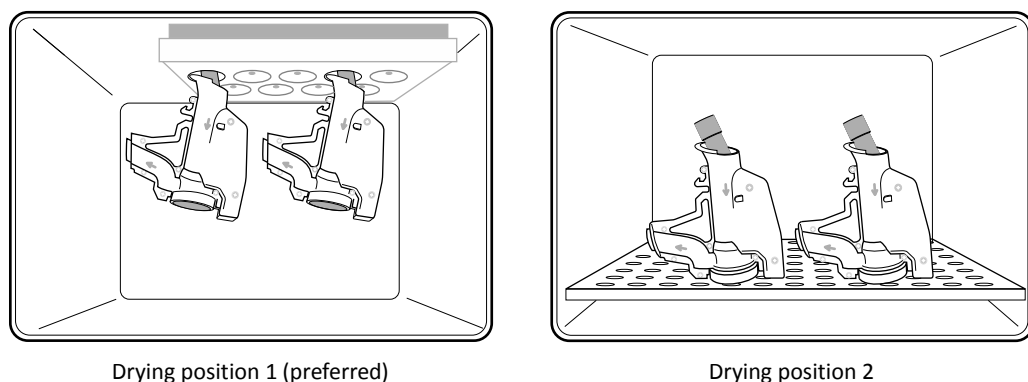

Figure 10-3: Drying position on tube holder
- 1 Submerge all eSYS parts--**the cartridge, diaphragm with disc, and retaining ring**--in approved detergent solution for one (1) minute.
- 2 Agitate by hand in the detergent solution for one (1) minute.
- 4 Submerge in clean deionized water and agitate by hand for one (1) minute.
- 6 Submerge in 70% isopropyl alcohol and agitate by hand for one (1) minute.
- 9 Dry all eSYS parts at a minimum of 45°C for a minimum of eight (8) hours, or dry at a minimum of 60°C for two (2) hours on a tube holder in a sterile dryer. See Figure 10-3! below.